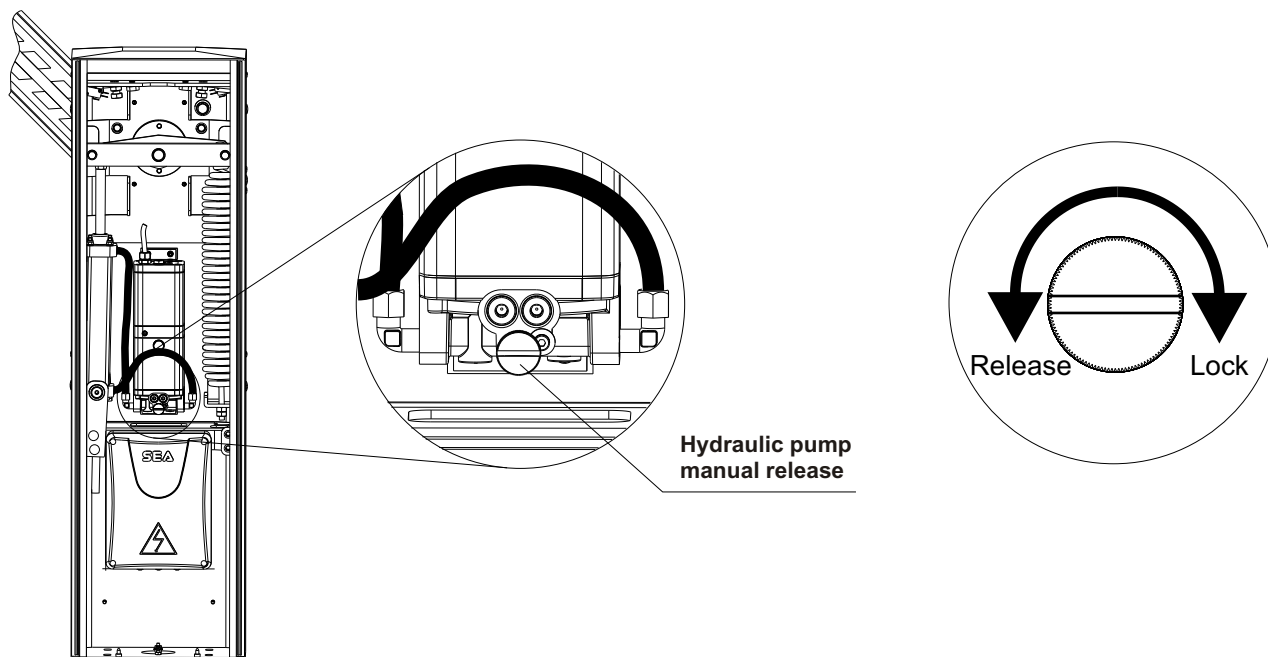

Fig.20
N.B.: Before executing this operation release the motor-reducer as shown in Fig.20.